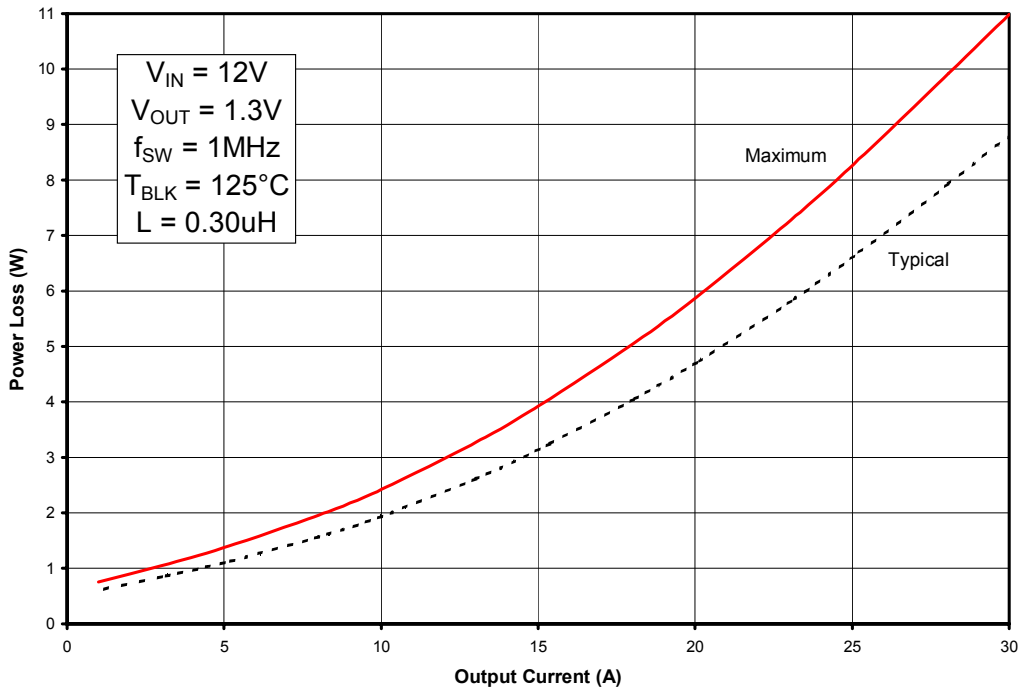
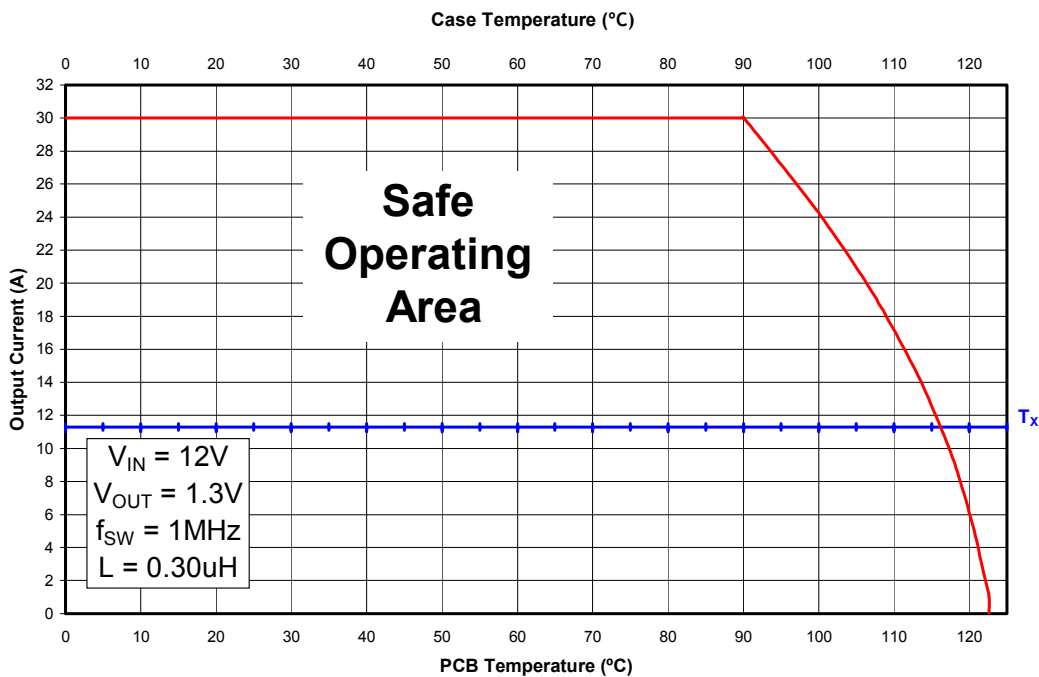
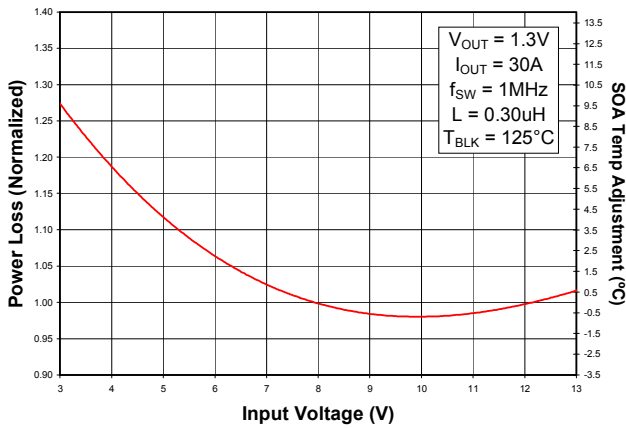

Fig. 1: Power Loss vs. Current
Fig. 2: Safe Operating Area (SOA) vs. T_{PCB} & T_{CASE}
Fig. 3: Normalized Power Loss vs. V_{IN}
To make adjustments to the power loss curves in Fig. 1, multiply the normalized value obtained from the curves in Figs. 3, 4, 5 or 6 by the value indicated on the power loss curve in Fig. 1. If multiple adjustments are required, multiply all of the normalized values together, then multiply that product by the value indicated on the power loss curve in Fig. 1. The resulting product is the final power loss based on all factors. See example no. 1.
To make adjustments to the SOA curve in Fig. 2, determine your maximum PCB Temp & Case Temp at the maximum operating current of each iP2002. Then, add the correction temperature from the normalized curves in Figs. 3, 4, 5 or 6 to the T_x axis intercept (see procedure no. 2 above) in Fig. 2. When multiple adjustments are required, add all of the temperatures together, then add the sum to the T_x axis intercept in Fig. 2. See example no. 2.
- (Fig. 1) Maximum power loss = 11W
- (Fig. 3) Normalized power loss for input voltage \approx 0.98
- (Fig. 3) Normalized SOA Temperature for input voltage $\approx -0.6^\circ\text{C}$